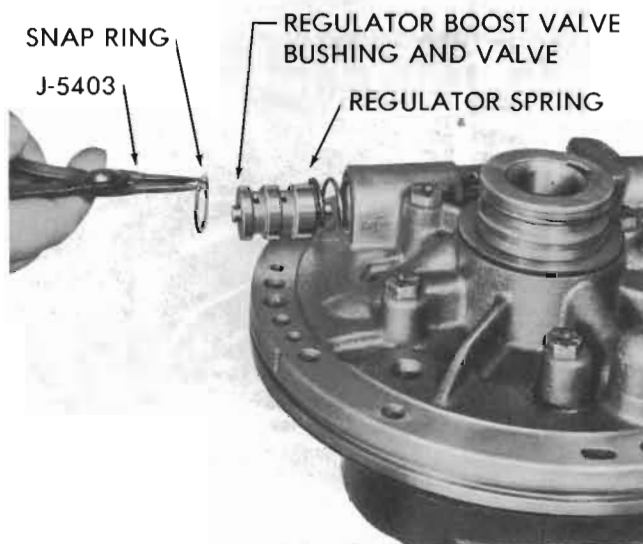

Figure 76-155
2. Compress the regulator boost valve bushing against the pressure regulator spring and remove the snap ring using J-5403 pliers. See Figure 76-155.